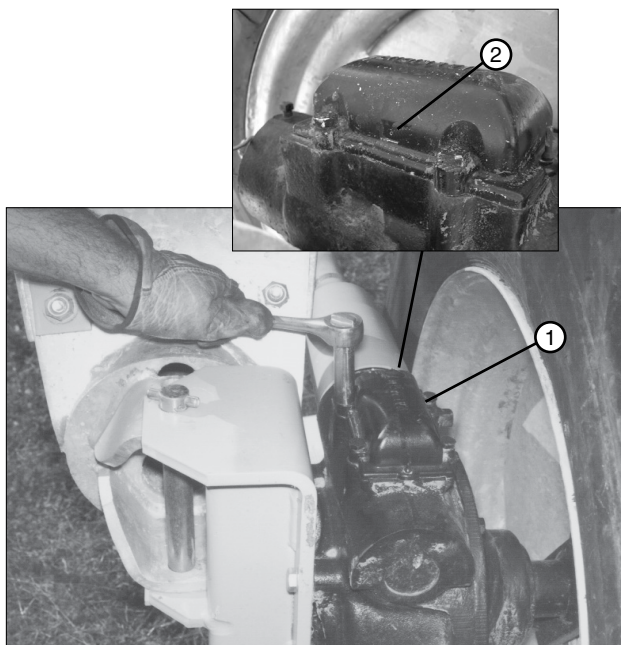

Figure 86-2 1. Expansion Chamber Cap
5. Clean all of the dirt away from the expansion chamber cap and remove the expansion chamber cap. Do not allow dirt to fall into the gearbox when removing the cap. See figure 86-2.